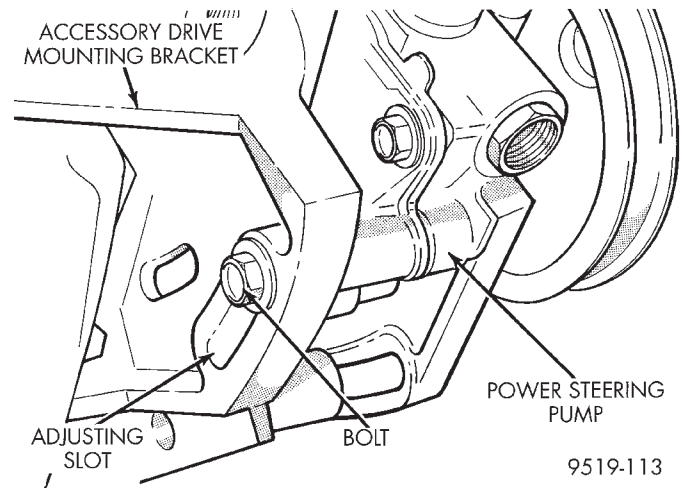
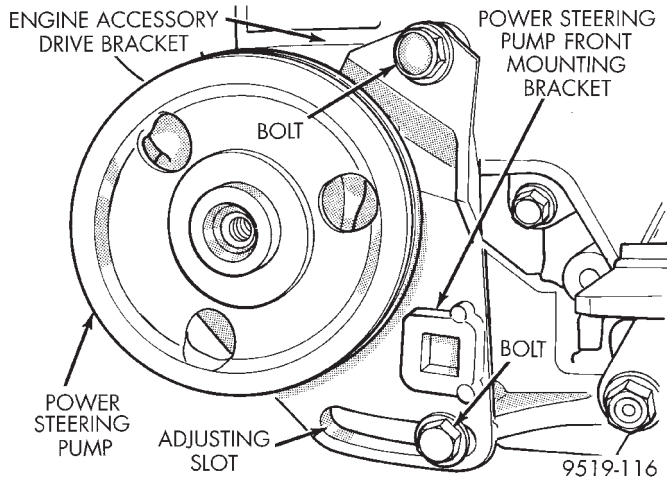
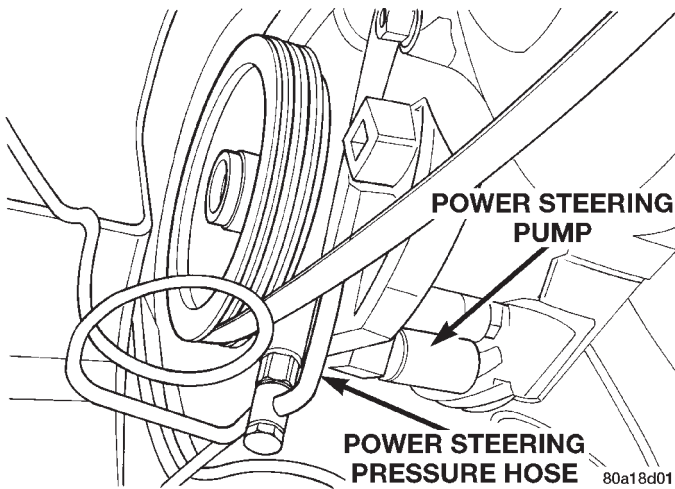

Fig. 19 Power Steering Pump Rear Mounting Bolt
Fig. 20 Power Steering Pump Front Bracket Attachment
Fig. 21 Power Steering Pressure Hose Attachment To Pump
(8) Loosen bolt at adjusting slot in accessory drive mounting bracket, (Fig. 19) attaching back of power steering pump to the bracket.
(9) Loosen bolt (Fig. 20) at top of power steering pump front mounting bracket, attaching it to the accessory drive bracket.
(10) Loosen bolt at adjustment slot, (Fig. 20) attaching the power steering pump front mounting bracket to cast aluminum accessory drive bracket on engine.
(11) Move the power steering pump toward the engine as far as possible.
(12) Remove the power steering fluid pressure hose from pressure fitting on power steering pump (Fig. 21). Be careful not to loose the copper sealing washers on both sides of the hose banjo fitting once the flow bolt is removed. Let the remaining power steering fluid drain out of the power steering fluid supply hose, power steering pump and power steering fluid pressure hose. **After power steering fluid has drained out of pump and hose, install a cap on the power steering pressure hose and a plug in the power steering pump pressure fitting.**
(13) Remove the power steering pump drive belt from power steering pump pulley.
(14) Remove bolt at adjusting slot in accessory drive mounting bracket, (Fig. 19) attaching back of power steering pump to the bracket.
(15) Remove bolt at adjustment slot, (Fig. 20) attaching the power steering pump front mounting bracket to cast aluminum accessory drive bracket on engine. Then remove bolt (Fig. 20) at top of power steering front mounting bracket, attaching it to the accessory drive bracket.
(16) Remove power steering pump, supply hose and its front mounting bracket as an assembly from the engine mounted power steering pump mounting bracket. Place the power steering pump on top of the antilock brakes hydraulic control unit.
(1) Install power steering pump, mounting bracket and fluid supply hose as an assembly back in vehicle, using the reverse of the removal procedure. **Be sure power steering fluid supply hose is correctly routed up to the power steering fluid reservoir when installing power steering pump.**
(2) Place the power steering pump on top of the antilock brakes hydraulic control unit.
(3) Install the power steering pump mounting bracket on the rear of the engine. Tighten the mounting bracket attaching bolts to a torque of 54 N·m (40 ft. lbs.).
(4) Install power steering pump and front bracket on engine mounted power steering pump mounting bracket. Loosely install bolt at adjusting slot and top of power steering pump front bracket (Fig. 20) mounting pump bracket to accessory drive bracket.
(5) Loosely install the bolt mounting power steering pump to its rear mounting bracket (Fig. 19).
(6) Using a lint free towel, wipe clean all open power steering hose ends, and power steering pump fittings.